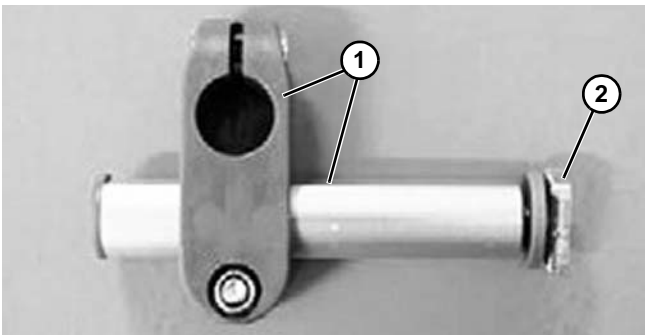

Figure 90
1. Fasten an adjustable guide rail bracket support (Figure 90, item 1) to the conveyor beam using T-bolt (Figure 90, item 2).